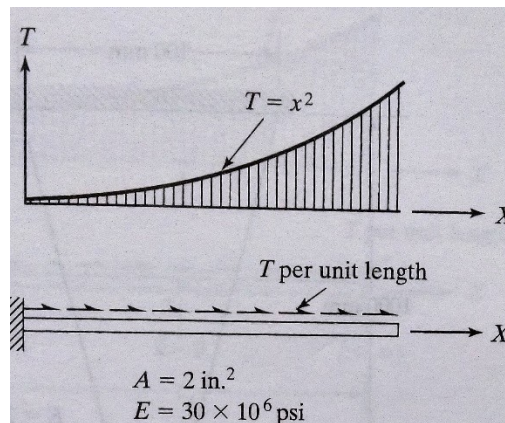

Fig. 7: Figure for Q 11 b
- b) Determine the stresses in the 4 in. long bar in Fig. 7, using two linear (bar) elements. (Note: x in., T kips/in.)